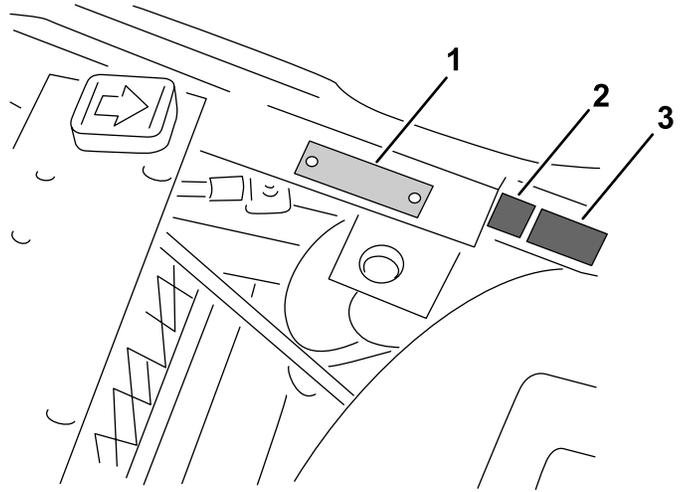

Figure 11
- Apply the CE mark decal and the production year decal near the serial plate on the footrest support (Figure 11).